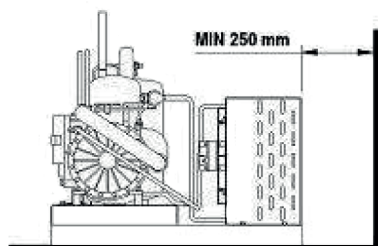

fig. 9
- The condenser must be at least 250 mm away from any wall (fig. 9).